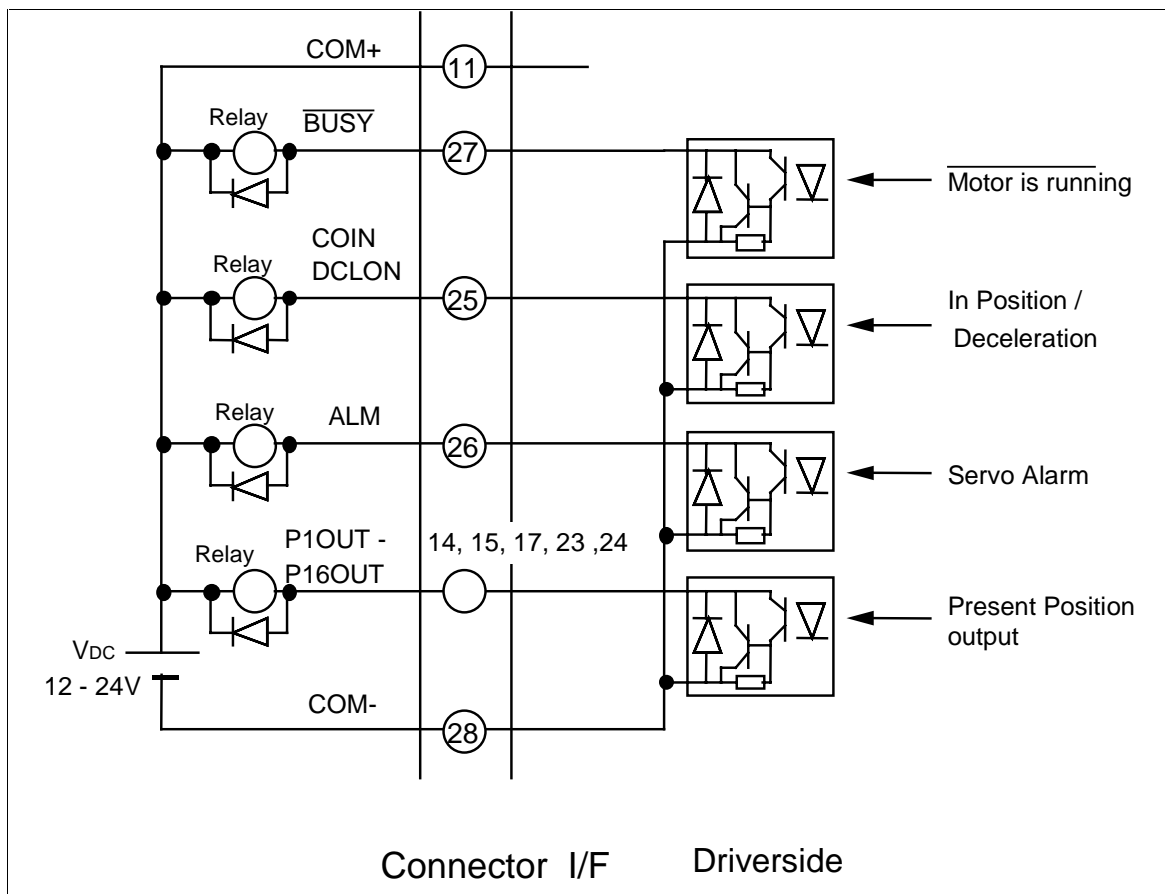

Fig. 4-2 Control output
- (1) Prepare a power supply (V_{DC}) for the control signal at customer side. (DC12 - 24V, 0.5A or more)
- (2) Pay attention to the polarity of V_{DC} . Reversed polarity of the above figure 4.2 for the connection will damage the position driver.
- (3) When a relay is driven directly by each output signal, install a diode in parallel to the relay as shown in Fig. 4.2. The position driver will be damaged with no diode installation, or reversed installation.
- (4) When each output signal is received by a logic circuit such as a gate, be sure to avoid influence by the noise.
- (5) The current fed to each output should be 50mA or less.